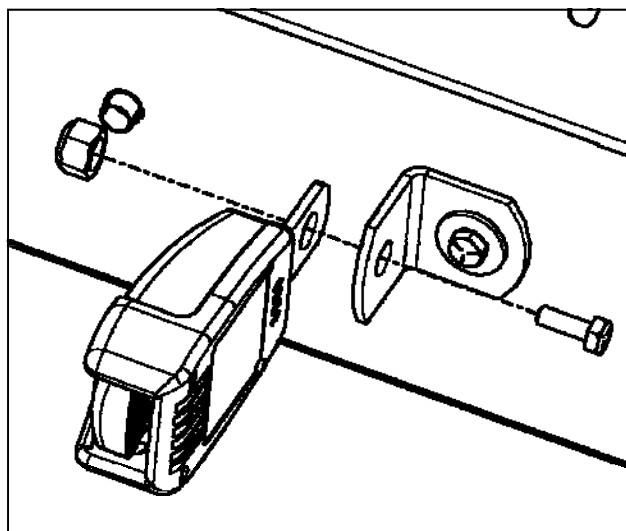

Fig. 9.6: Receiver Latch
- 9.6 Secure receiver latch to mounting bracket (9SB2) with (1) 7/16-14 x 1" hex head bolt and (1) 7/16-14 lock nut. Tighten hardware to 50 ft-lb (67.8 N-m). **(Figure 9.6)**